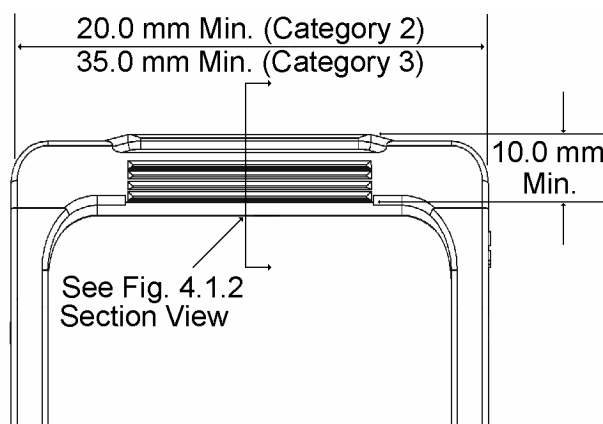
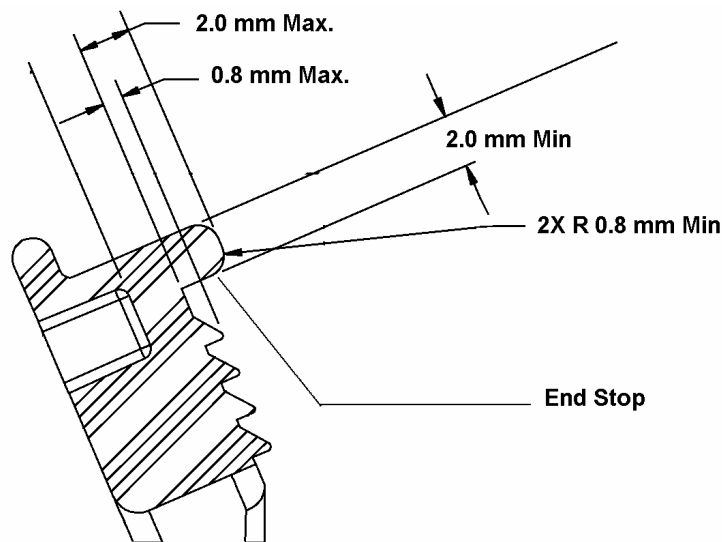

FIGURE 4.1.1: Lever Contact Surface Area Example
FIGURE 4.1.2: Section View – Maximum Dimensions of OPTIONAL Contact Surface Features
- 4.1.1 Make the contact area a continuous flat surface. An example is shown in figure 4.1.1. Serrations, knurls, ridges, etc are permissible within the guidelines of figure 4.1.2.
- 4.1.2 An end stop is defined as a ridge perpendicular to the bearing surface located at the distal edge of the surface. Such features are OPTIONAL and may help prevent the thumb/finger(s) from sliding off of the lever. Maximum dimensions of this feature are shown in figure 4.1.2
(ref. Figure 4.1.1)